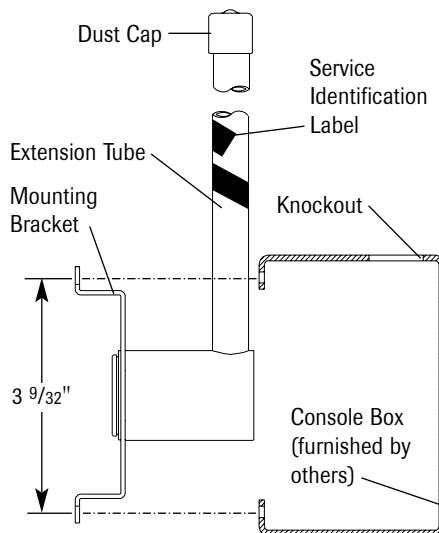

Figure 1
1. Determine the location of the outlet rough-in assembly in the console box. Each assembly is labeled for the specific service on the mounting bracket and on the extension tube. The mounting bracket is marked TOP to aid in proper orientation and the copper extension tube can be rotated 360 degrees for connection to the piping system (Figure 1).
2. Remove the knockout in the console box to the largest diameter possible (Figure 1).